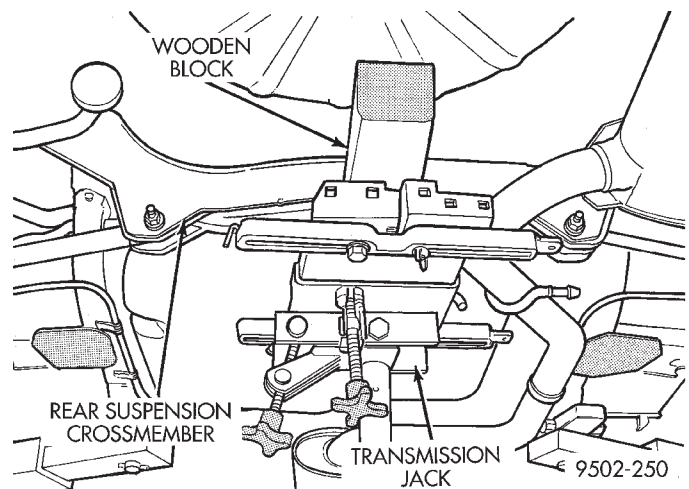

Fig. 5 Lowering And Supporting Rear Suspension Crossmember
(6) Position a transmission jack and wooden block under the center of the rear suspension crossmember to support and lower crossmember during removal (Fig. 5).